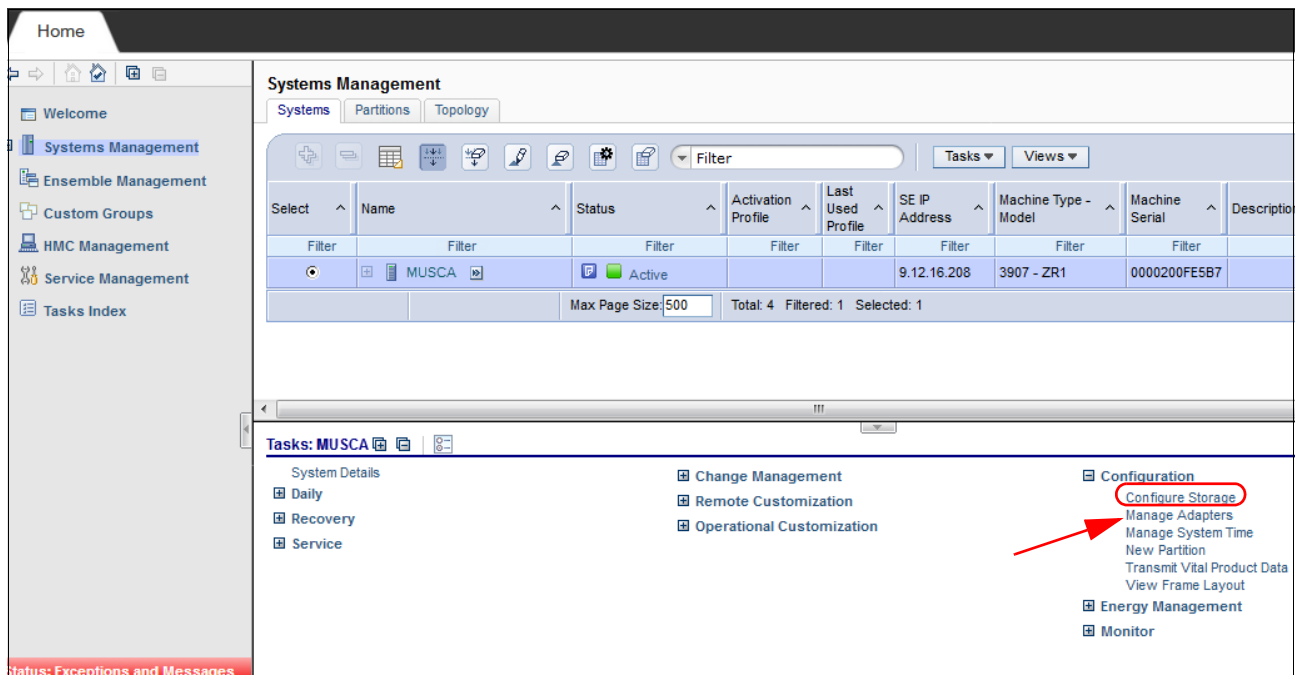
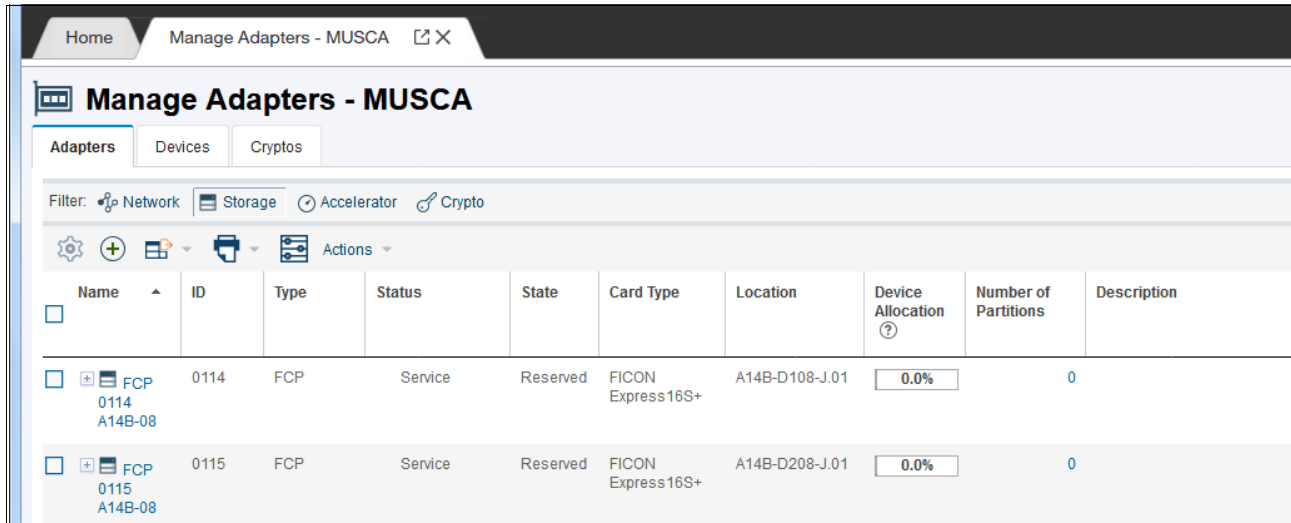

Figure 16-25 Accessing the "Configure Storage" task
Figure 16-27 Storage adapters available for allocation to partitions
1. Click **Configure Storage** (see Figure 16-25) to access the storage configuration menu.
Identify the adapters that you plan to use (unused adapters are marked as NONE), click the wanted protocol (FCP or FICON). Then, save the configuration and return to main menu (see Figure 16-25 on page 405).
3. After the storage adapter protocol is saved, the status of the adapter is reflected in the Manage Adapters task (see the red arrow Figure 16-25 on page 405), as shown in Figure 16-27 on page 407.